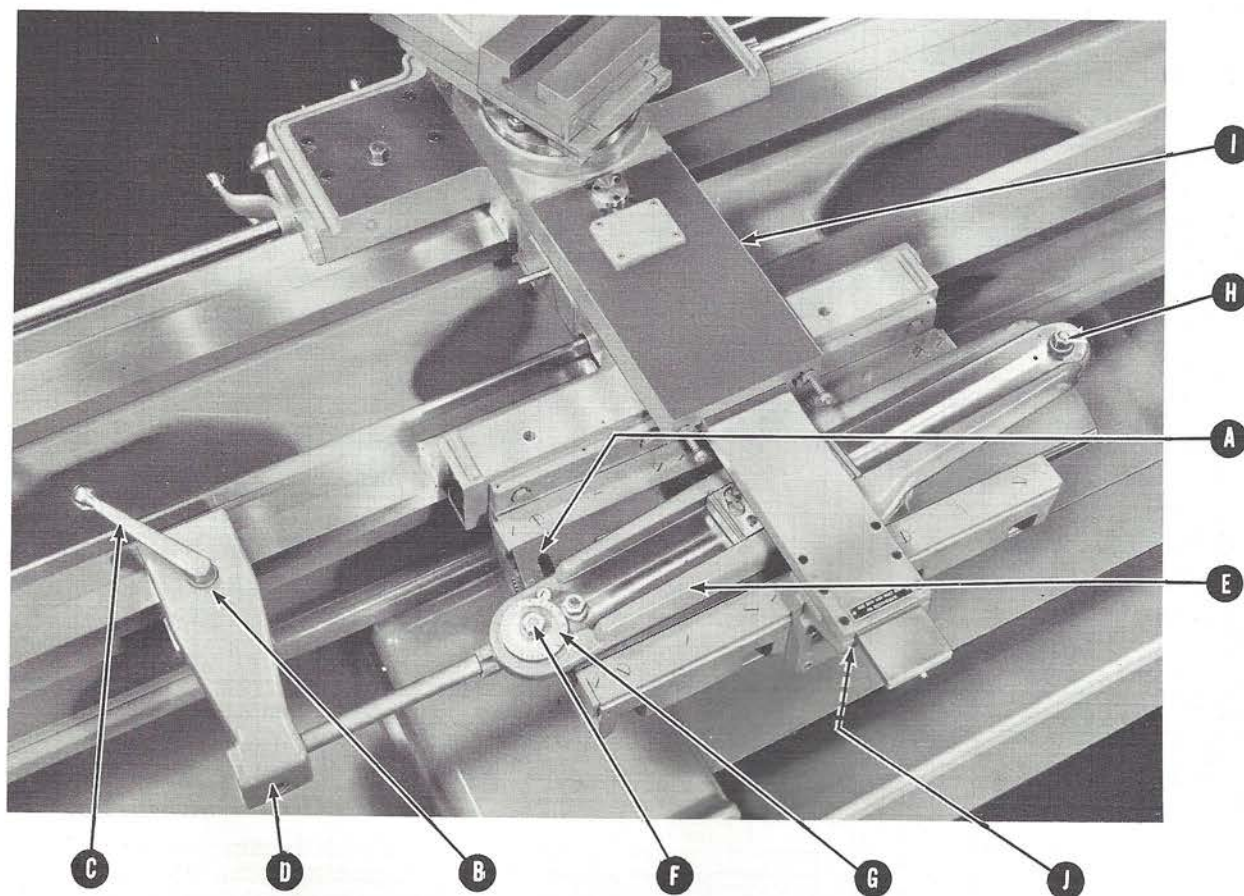

FIGURE 9 TOP VIEW OF MONARCH BALL BEARING TAPER ATTACHMENT
2. Push slide (A), Figure 9, all the way in toward the headstock, position bed clamp (B) as illustrated, tighten lever (C) and lock camlock (D).
3. Set swivel (E) at required taper by turning stud (F) and reading the vernier dial (G).